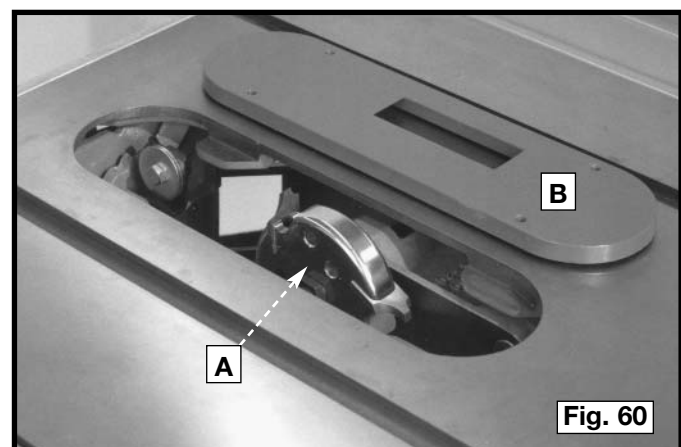

Fig. 60
1. A moulding cutterhead (A) Fig. 60 is shown assembled to the saw arbor.